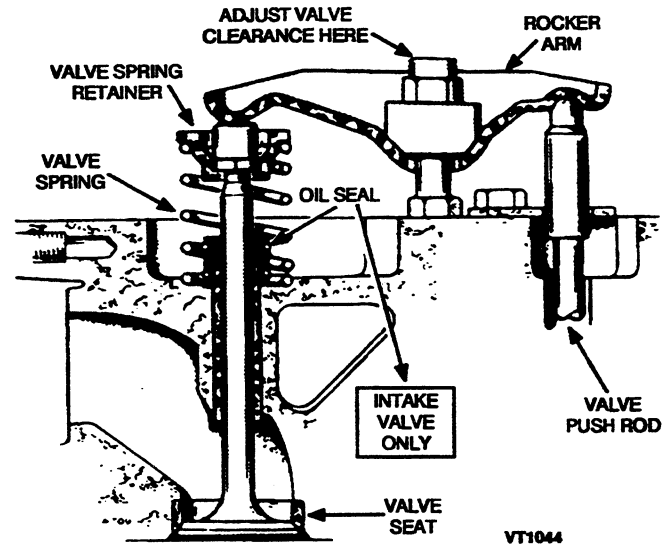

FIGURE 6-3. VALVE CLEARANCE ADJUSTMENTS
3. Adjust valve clearance with the locknut which secures the rocker arm to the cylinder head (see Figure 6-3). Loosen this locknut to increase clearance; tighten it to reduce clearance.